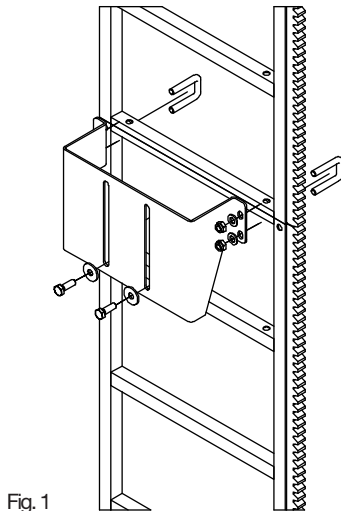

Fig. 1
1. Install and adjust upper ladder section at the top of the top tower section (see Fig. 1 and installation drawing). Use 15 N·m torque for M8 and 50 N·m for M12.
1. Install and adjust upper ladder section at the top of the intermediate tower section (see Fig. 1 and installation drawing).
1. Install and adjust upper ladder section at the top of the bottom tower section (see Fig. 1 and installation drawing).